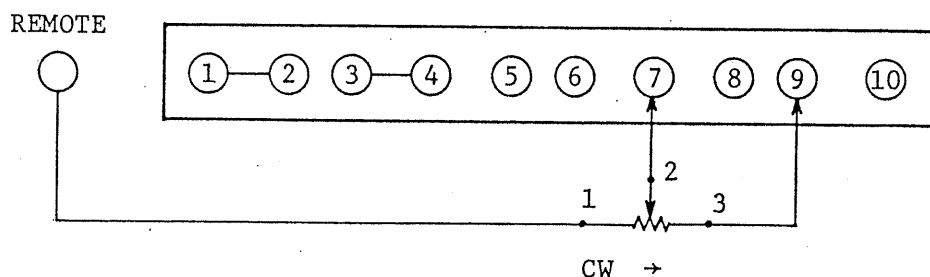
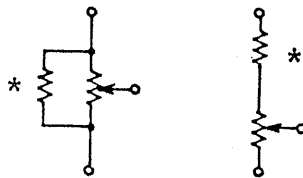

Figure 12
Figure 13
This terminal is used for controlling the device with an external potentiometer instead of that on the front panel of the device. (See Figure 12.)
- (1) Connect a variable resistor (1.5 k Ω) as shown in Figure 12.
- (2) When the variable resistor is placed far apart from the device, use a shielded cable in order to guard against external induction noise which may cause ripples and other adverse effects.
- (3) The current varies if the fine-adjustment LOAD knob (red) is varied. Keep this knob set in the maximum position.
* The device has been calibrated for a variable resistor of 1.5 k Ω . If no variable resistor of this resistance is available, connect a compensating resistor in parallel or series as shown in Figure 13 so that the total resistance becomes 1.5 k Ω . When using a parallel compensating resistor, note that the device characteristics may be degraded if the resistance of the variable resistor is 5 k Ω or higher. When using a series compensating resistor, note that the controllable range will become narrower.